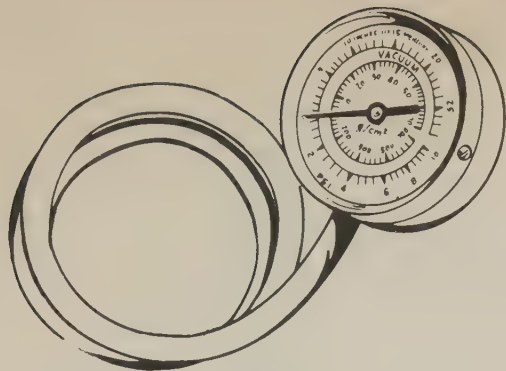

FIG. 8-11 A vacuum gauge. (Onan Corporation)
2. **Vacuum Gauge.** The vacuum gauge is really a pressure gauge. The type of vacuum gauge used in engine service contains a bellows or diaphragm which is linked to an indicating needle on the dial face (Fig. 8-11). When the vacuum gauge is connected to the engine (to the intake